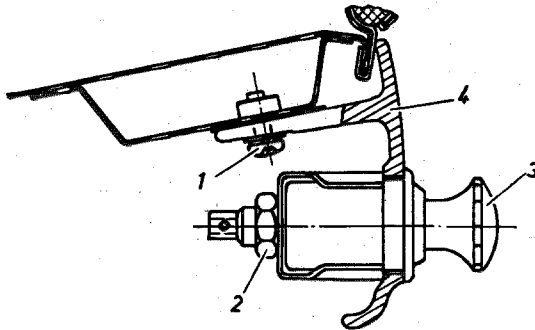

Fig. 82 — 11/1
1. Take out the insert (3) for the cigar-lighter (Fig. 82 — 11/1).
2. Disconnect the feed cable, unscrew the fixing nut (2) and take off the ground cable. Remove the bracket and take out the cigar-lighter (see Fig. 82 — 11/1).